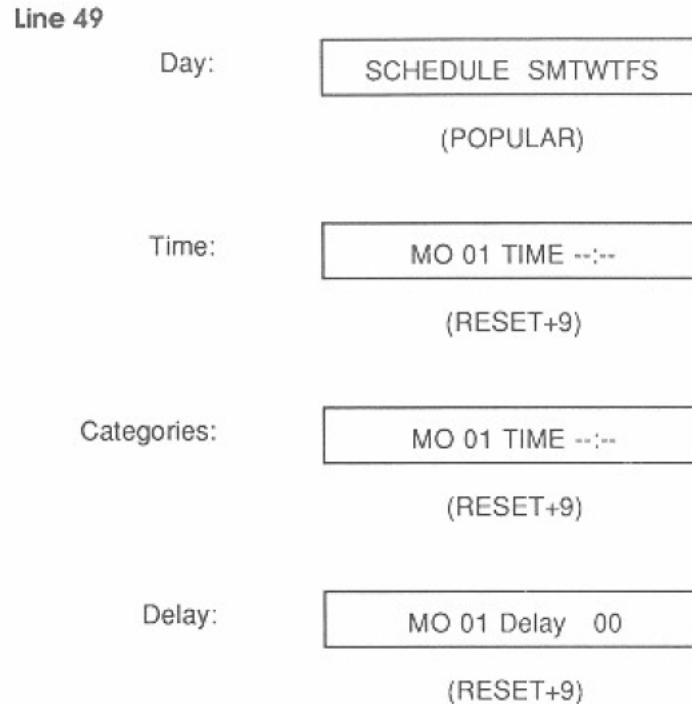

Figure 2-15. Steps To Make A Schedule
A. Event 1 - These steps describe how to enter Event 1 in the previous example (*figure 2-14*) and the flow through the steps is illustrated in *figure 2-15*.